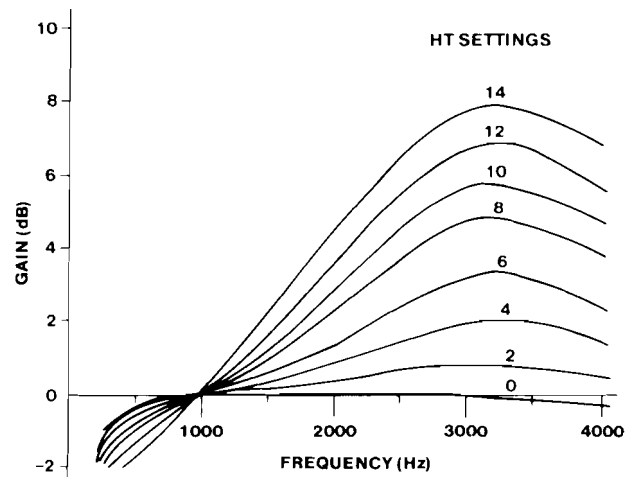
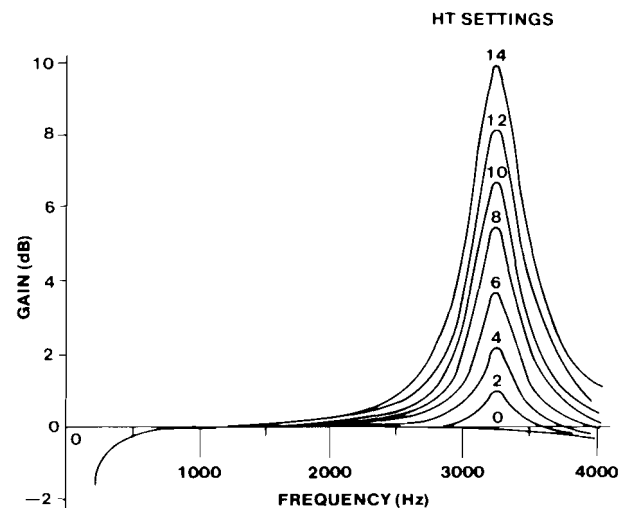

figure 6. Typical response curves for receive and transmit equalizers in bump mode, BW switch = 14
figure 7. Typical response curves for receive and transmit equalizers in bump mode, BW switch = 3
2.11 Figures 6 and 7 show typical response curves for the 309B-equivalent equalizer in the bump mode. Figure 6 shows the curves representing various height settings versus a wide bandwidth setting, while figure 7 shows the curves representing various height settings versus a narrow bandwidth setting. For comparison purposes, all frequency-response curves in both figures are drawn with the same 0dB-gain reference point (1004Hz). Actually, all of these curves except those for a height (HT) switch setting of 1 or 0 and/or for a bandwidth (BW) switch setting of 5 or less are raised above the 0dB level by as much as 3.9dB. The exact amount by which a particular curve is raised depends upon the